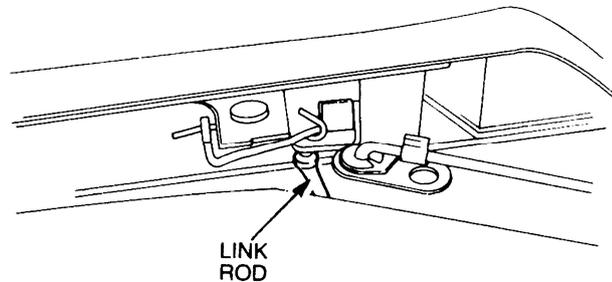

Figure 223 Door Lock Handle Link Rod Connection
- q.** Connect the interior lock link rod to the lock assembly (Figure 223).